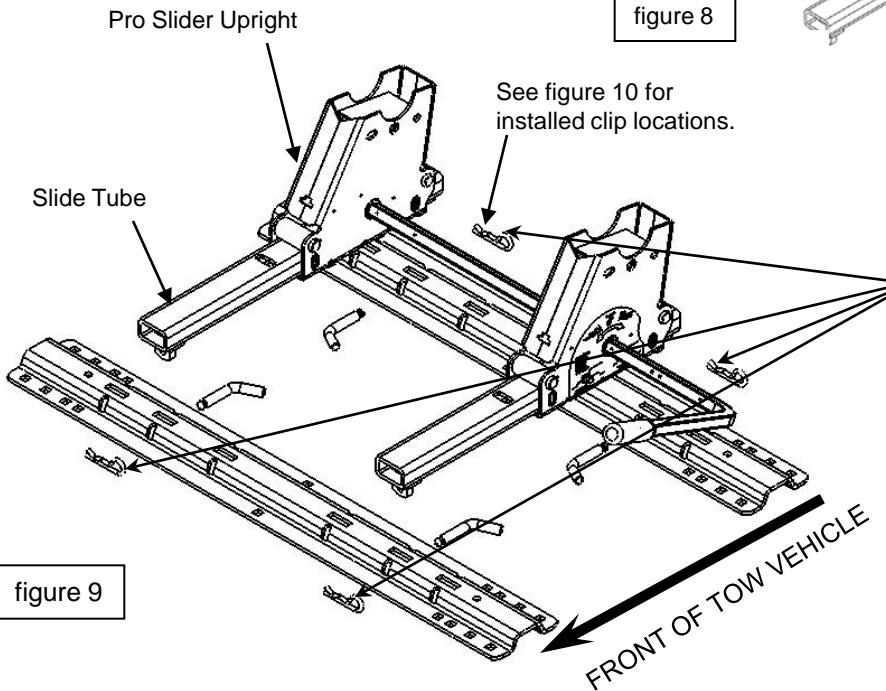

figure 9
4. Set the Pro Slider into base rails and pin in position with the Pro Series Slider in the middle of the tubes (see figure 9).